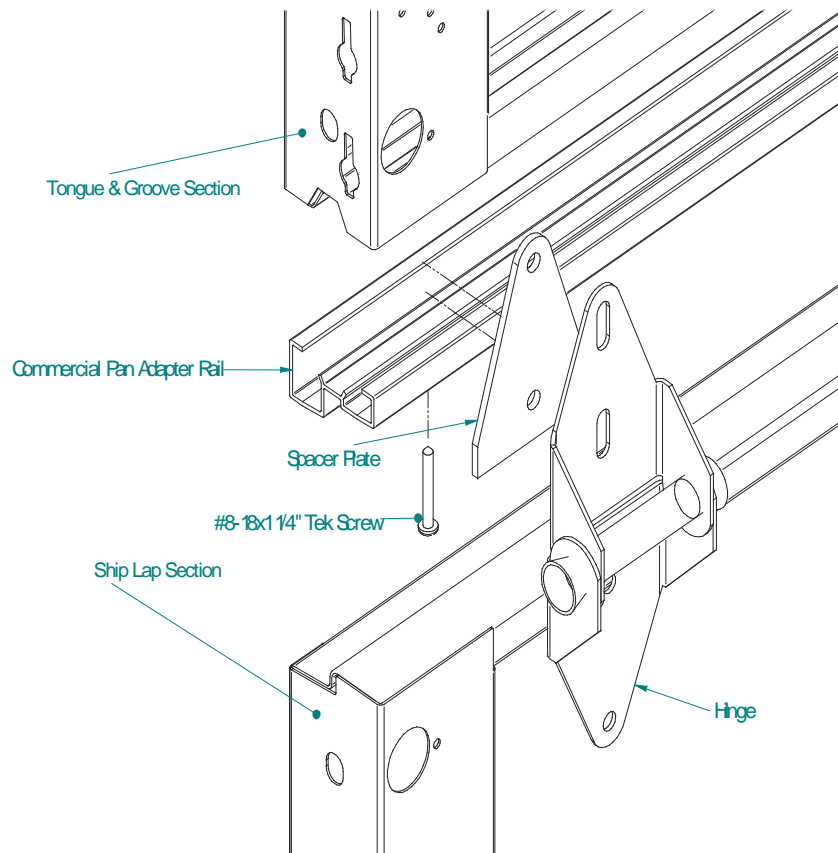

FIGURE 2
Step 2: Attach Rail. Screw Pan Adapter Rail to bottom of the Tongue and Groove section using #8-18 x 1" Tek screws so that fronts of rails, skins and sides are flush. Position the Tek screws approx. 24" apart across entire width of door section. (Fig 2)